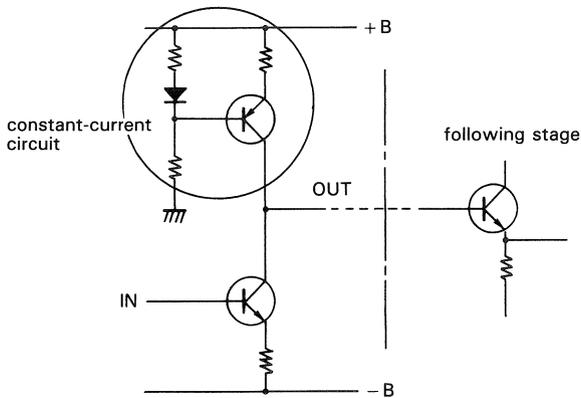

Fig. 44 Amplifying circuit with constant-current load
d) shows the load line with the following stage combined to the amplifying circuit shown in Fig. 44. The largest advantage of employing this circuit is that a very high gain can be obtained.